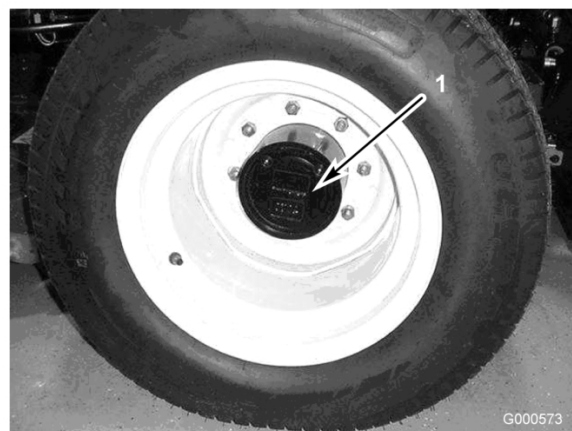

Figure 41
1. With the machine on a level surface, position the wheel so that the check/drain plug (Figure 41) is at either the 2 or 10 o'clock position.
2. Remove the plug on the planetary (Figure 41). Oil should be at the bottom of the check plug hole.